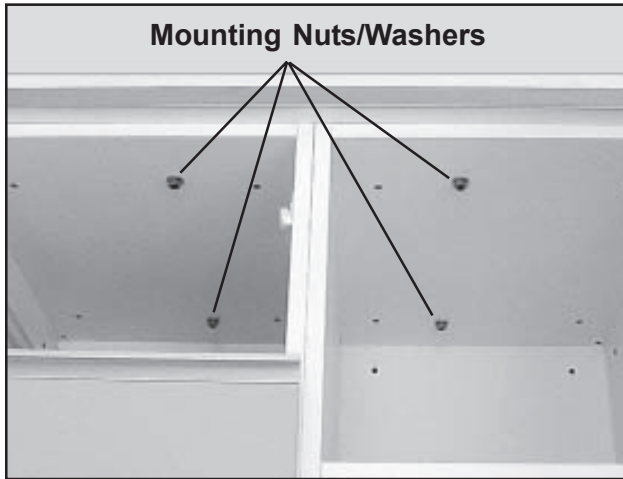

Figure 22. Interior View of Exam Table
2. With a 1/2 in. wrench, remove the four exam top mounting nuts and washers (Figure 22).